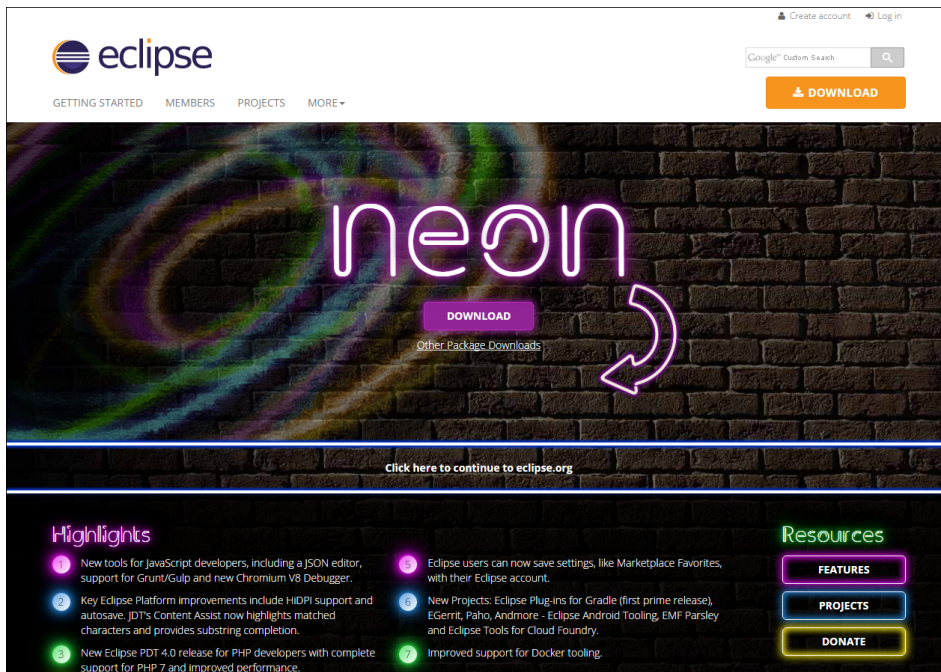

Figure 3.16 Eclipse Website
1. Download the latest Eclipse release from <http://www.eclipse.org/>. Eclipse is available for Windows, Mac, and Linux platforms. The latest version available at the time of writing (October 2016) is Neon (see Figure 3.16). Make sure to check and download the latest version of Eclipse.